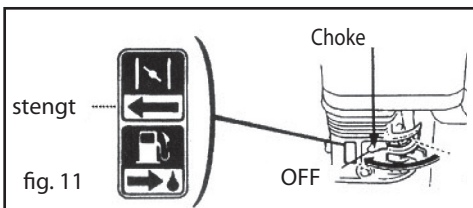

fig. 11
7. Choke lukkes. "stengt" (fig. 11).